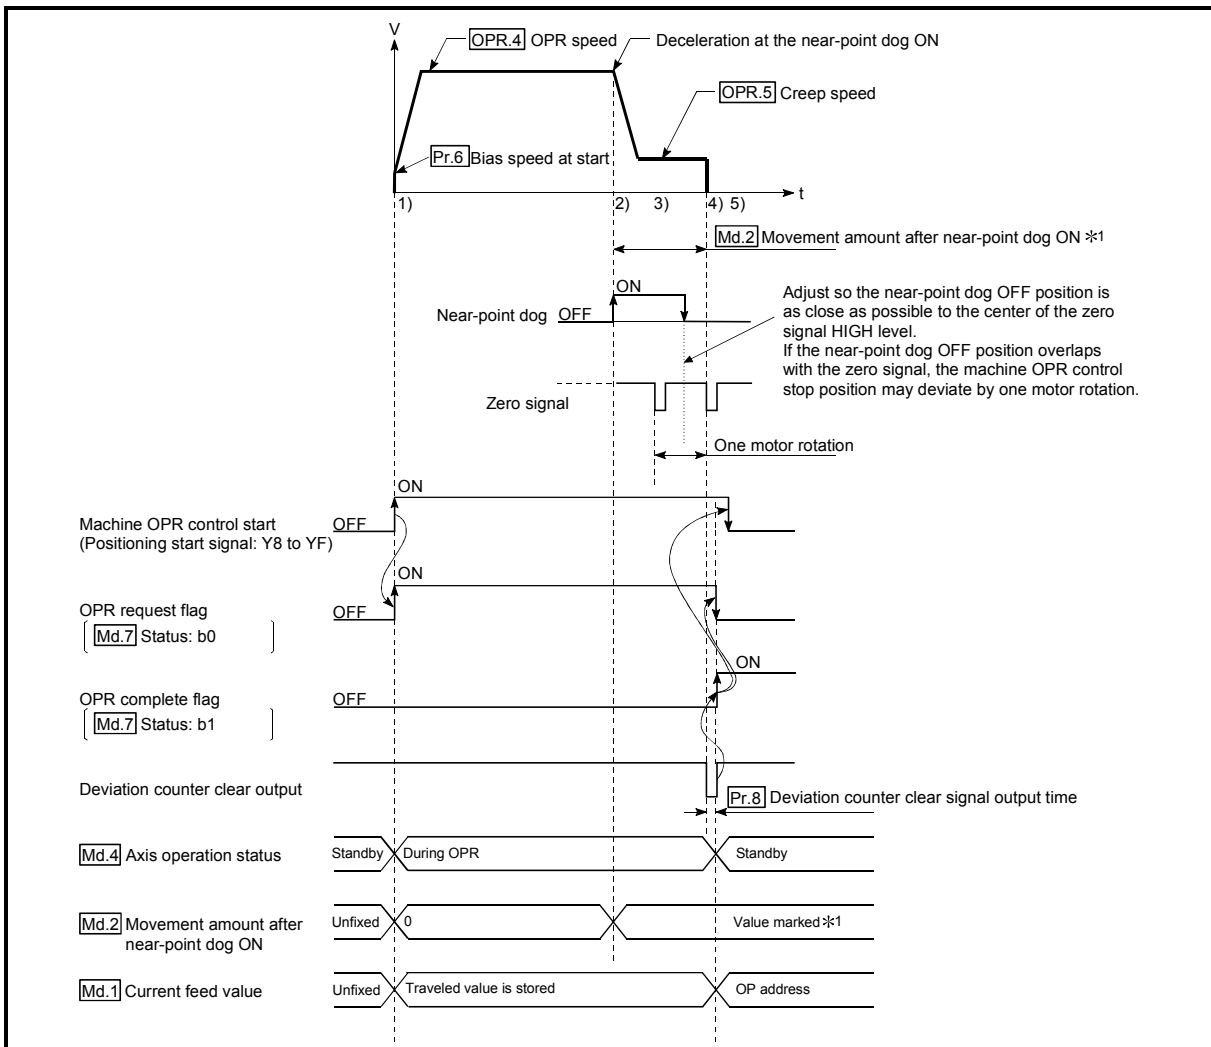

Fig. 8.2 Near-point dog method machine OPR control
- (1) When the near-point dog is ON at start, an error, "Start during near-point dog ON" (Error code: 201) occurs. Perform JOG operation to move the axis to the position where the near-point dog turns OFF. If the OPR retry function is used, however, no error will occur. It starts at the creep speed and performs the OPR control. Start the operation at creep speed to perform zero return. (Refer to Fig. 8.2, 3 to 5).)
- (2) The near-point dog must be ON during deceleration from "OPR. 4 OPR speed" "OPR. 5 Creep speed". The following is the operation performed if the near-point dog turns OFF before deceleration to the creep speed.